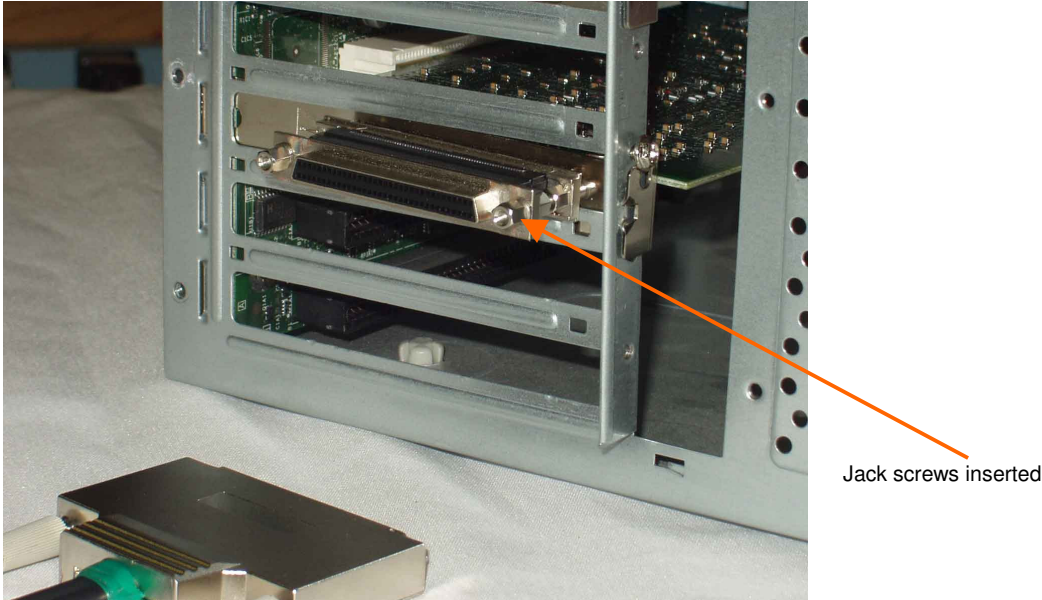

Figure 4
4. Screw the **single** jack screws into the double jack screws (Fig. 4).